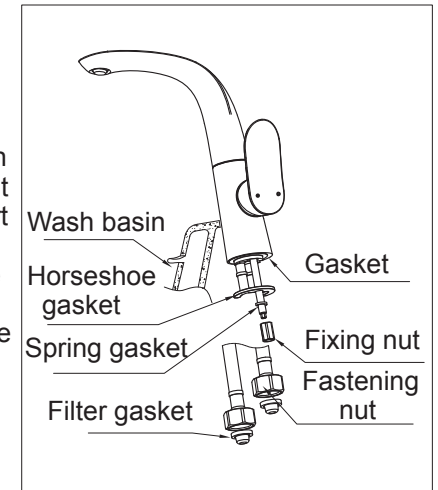

Fig. 1(Main water nozzle body installation)
- (1) As shown in Figure 1, remove the fixing nut, spring gasket, horseshoe gasket at the lower part of the body.